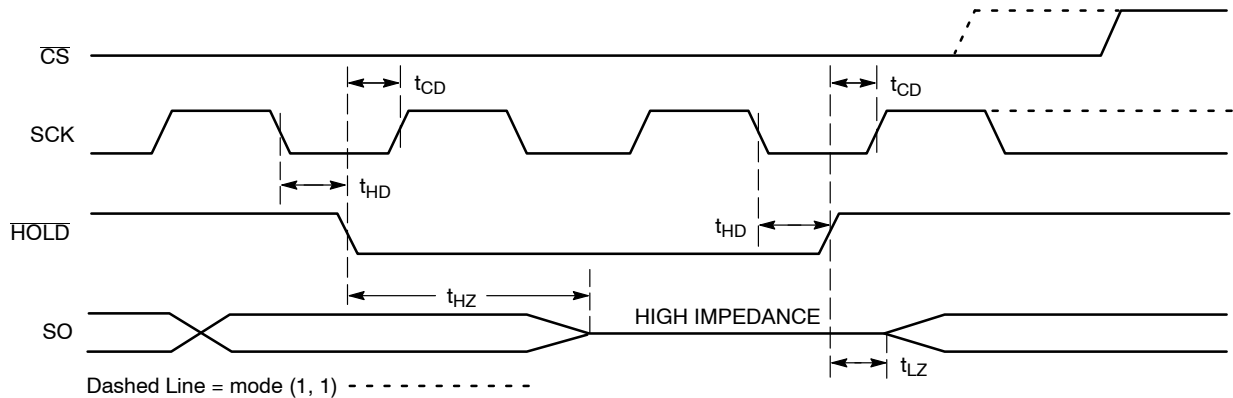

Figure 11. HOLD Timing
The  $\overline{\text{HOLD}}$  input can be used to pause communication between host and CAV25010/20/40. To pause,  $\overline{\text{HOLD}}$  must be taken low while SCK is low (Figure 11). During the hold condition the device must remain selected ( $\overline{\text{CS}}$  low). During the pause, the data output pin (SO) is tri-stated (high impedance) and SI transitions are ignored. To resume communication,  $\overline{\text{HOLD}}$  must be taken high while SCK is low.